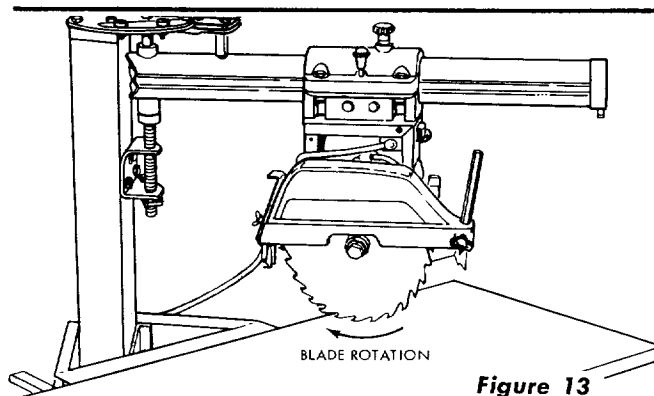

Figure 13
- e. Place the saw blade on the motor shaft with saw teeth pointing in direction of saw rotation (clockwise). (See figure 13.)